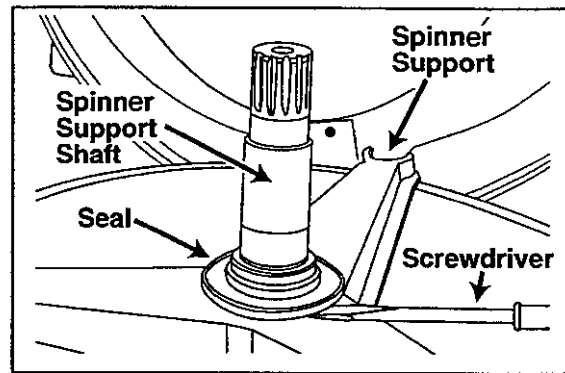

Figure 7-9
3. With a flat bladed screwdriver, pry the seal carefully off the tub support shaft (Figure 7-9).